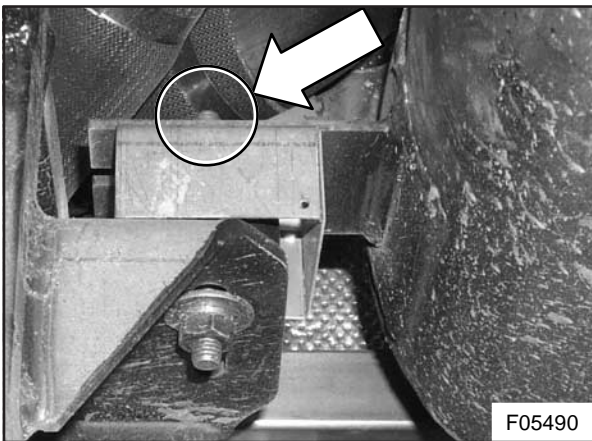

Figure 5 : Right rearmost muffler support with rubber bobbin
- 1) Undo and remove the nut from the top stud of the right rearmost rubber bobbin (see Figure 5). Remove the spring washer and plain washer as well.